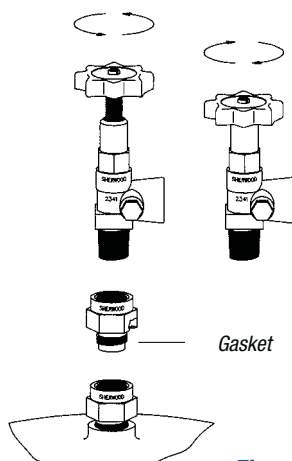

Figure 1
This instruction covers the use of the Sherwood 2341 Series Transfer Valve and PA5138 Adapter to withdraw liquid LP gas from stationary or domestic tanks that have been pre-fitted with a Sherwood PVE5136 or PVE5137 Checkmate™ as shown in Figure 1.
1. Apply a thread sealant, suitable for LP gas, to the pipe threads of the transfer valve. Make sure the gasket is in place on the bottom of the adapter as shown in Figure 1. Screw the adapter onto the transfer valve and, using two wrenches, tighten the adapter until snug. **Do not overtighten.**
2. Before you screw the valve and adapter assembly into the Checkmate, open the transfer valve as shown at the left in Figure 1. This keeps the Checkmate closed, preventing a large release of LP gas when the transfer valve is installed. Do not use pipe dope on the male threads of the adapter. Screw the assembled transfer valve and adapter clockwise into the Checkmate and hand tighten until snug. A small, steady release of LP gas is normal at this time. This release will stop when the transfer valve is closed.
1. Turn the handwheel to close the valve, as shown at the right in Figure 1. This allows tank gas pressure to open the excess-flow valve inside the Checkmate. Liquid LP gas then enters the transfer valve up to the valve shut-off seat.